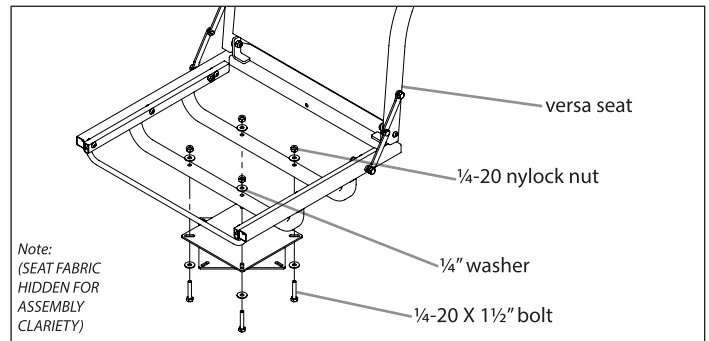

FIGURE 5
9. Locate the included (2) Versa Seats (15004), (2) small parts bags (15752) and the (2) swivels (15016). Attach (1) swivel (15016) to (1) Versa Seat (15004) using (4) ¼-20 x 1½" bolts, (8) ¼" washers and (4) ¼-20 nylock nuts. Repeat this step to assemble the other seat/swivel combination **SEE FIGURE 5**